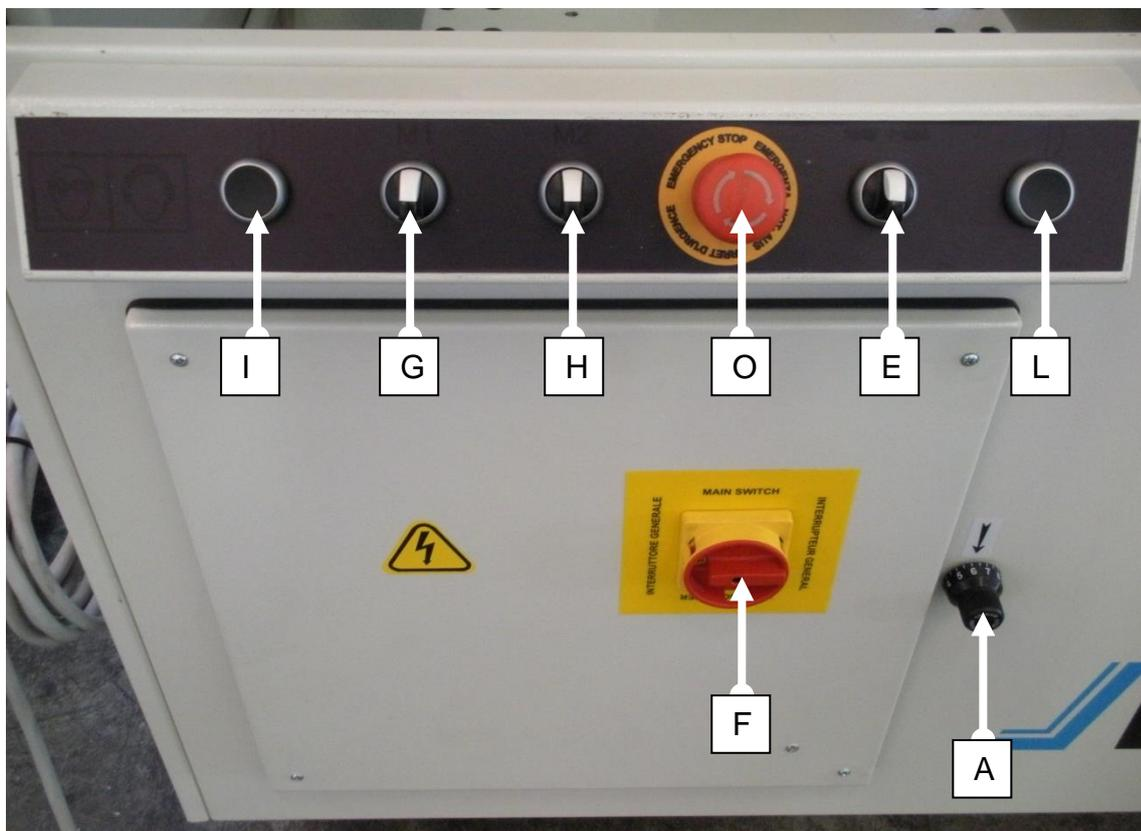
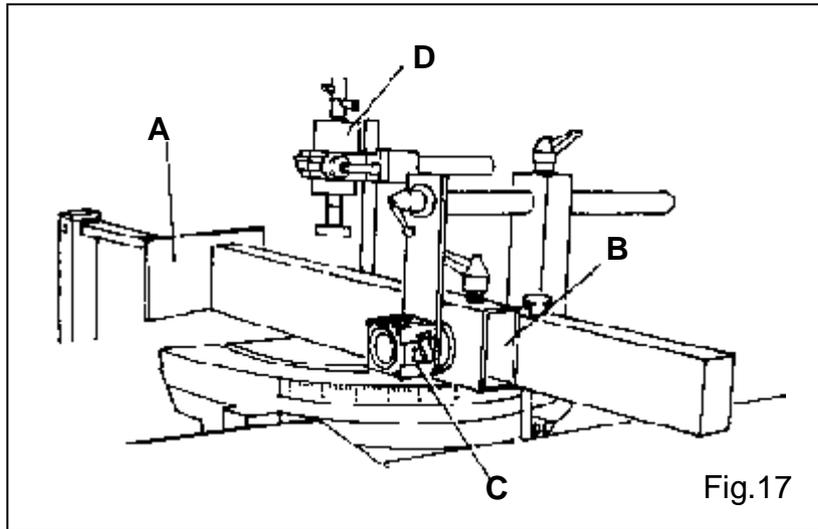

FIG.17A
Fig.17
- Put profile B (Fig.17) against end stop A (Fig.17).
- Lock profile B (Fig.17) on the working plan with clamps C and D (Fig.17) and turning selector E (Fig.17A)
- Turn main switch F (Fig.17A)
- Turn selector G (Fig.17A) start up motor 1
- Turn selector H (Fig.17A) start up motor 2
- Press simultaneously buttons START I + L (Fig.17A) for saw blade feeding M and N (Fig.17B) and start up lubrication P (Fig.17B), release buttons to obtain automatically the return to the rest position of the saw blade
- Unlock profile B (Fig.17) through selector E (Fig.17A)
- Turn motors off with selectors G and H (Fig.17A), thus the machine is equipped with emergency push-button O (Fig.17A) that can also serve to turn motors off.